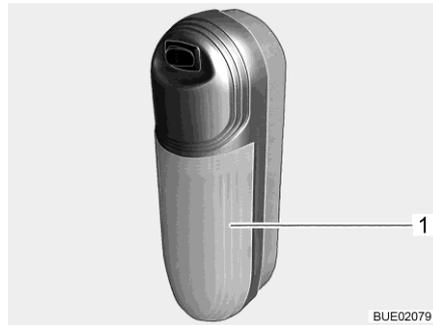

Fig. 317 Surface mounted light
- Pull transparent cover (Fig. 317,1) slightly away from switch and remove it.